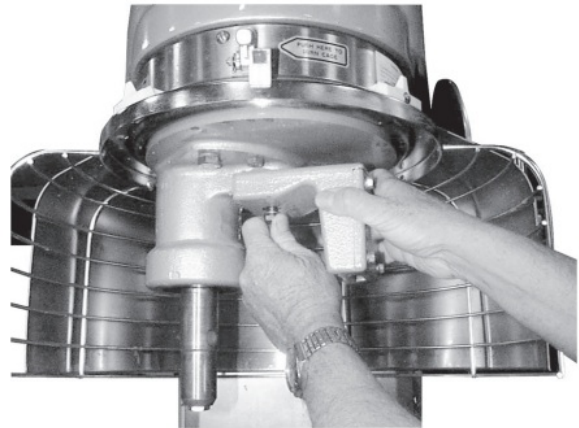

Fig. 5
4. Install the bracket using the new bolt and the lock washer removed in step 1, (Fig. 5). Remove excess sealant by wiping around the top of the bracket with your finger. Tighten bolt to 228 to 285 in-lbs. torque.